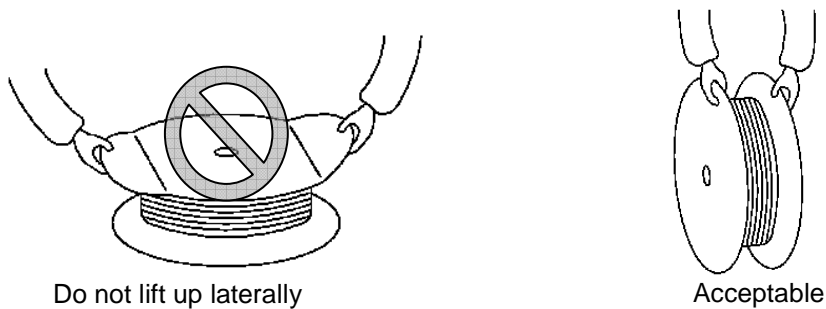

Fig.4
- (1) Avoid leaving or carrying the terminal reel in an open area without wrapping it in proper material.
- (2) Do not lift up and carry the terminal reel by gripping one the side of reel, this may result in damage to the reel, and terminals before use. (See Fig.4)